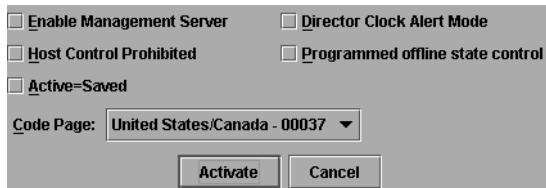

Figure 78: Configure FICON Management Server dialog box
1. Choose **Configure > Management Server** from the **Product Manager** window. The **Configure FICON Management Server** dialog box displays (Figure 78).